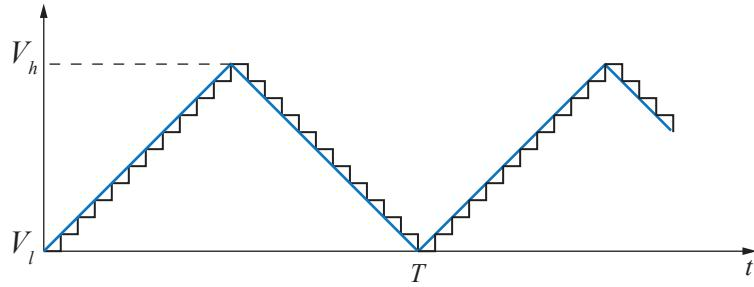

Figure 10: Triangle wave and its approximation by a stair-case waveform which more closely resembles the output of a DAC.
1. Build circuit shown in Fig. 10 on your breadboard.